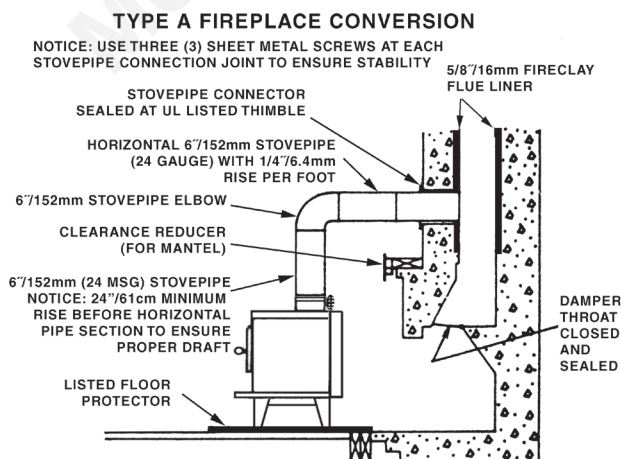

Figure 19 - Fireplace Conversion
**NOTE: DO NOT ATTEMPT TO ROUTE THE CHIMNEY CONNECTOR PIPE THROUGH THE THROAT OF THE FIREPLACE.** Directly connecting the stovepipe into the existing masonry chimney (figure 19 “Type A”